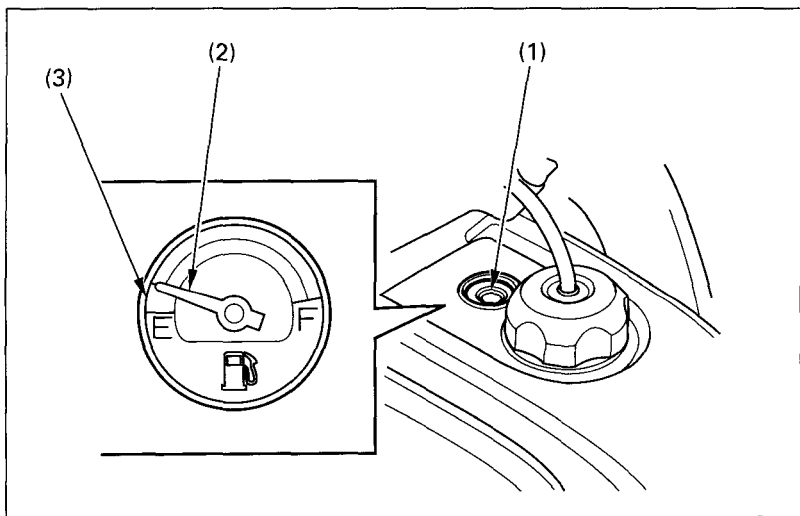

Fig. 2-24 (1) Fuel gauge
The fuel gauge (Fig. 2-24) (1) shows the approximate fuel supply available. At F (Full), the fuel tank capacity including reserve is: